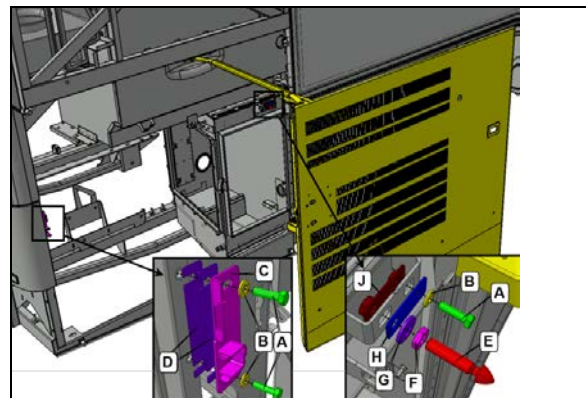

FIGURE 57
9. Install strike plate C and pin E centered in the available adjustment position provided by respective slotted holes (FIGURE 57). The components should be snug but not tight so that they can move when the door will be closed later on in this procedure.